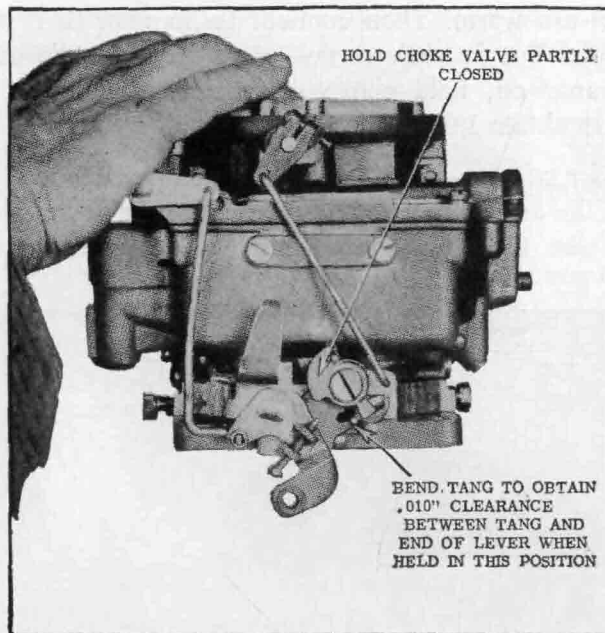

FIG. 10-39. Lockout adjustment. (Oldsmobile Division of General Motors Corporation)
7. *Lockout adjustment.* The lockout prevents the secondary throttle valves from opening if the choke valve (on primary side) is still closed. If the secondary throttle valves opened when the engine was cold and the choke valve closed, the engine would probably stall from the excessively lean mixture. And during cranking, opening of the secondary throttle valves would prevent the choking action so necessary for starting. The fast-idle and other adjustments described above should be made before the lockout adjustment. To make the adjustment, hold choke valve tightly closed and open primary throttle valves all the way. Note if tang on secondary throttle arm engages in notch on lockout lever to prevent secondary throttle shaft movement. Then hold choke valve wide open, and open primary throttle valves all the way. Lockout lever should now fall free to allow secondary throttle valves to open before the primary throttle valves are fully opened. If these two actions do not occur, adjust by bending tang on the secondary throttle lever to attain proper clearance (Figs. 10-39 and 10-40).